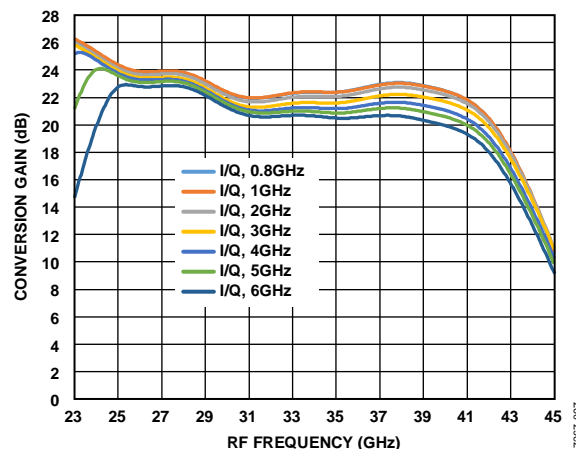
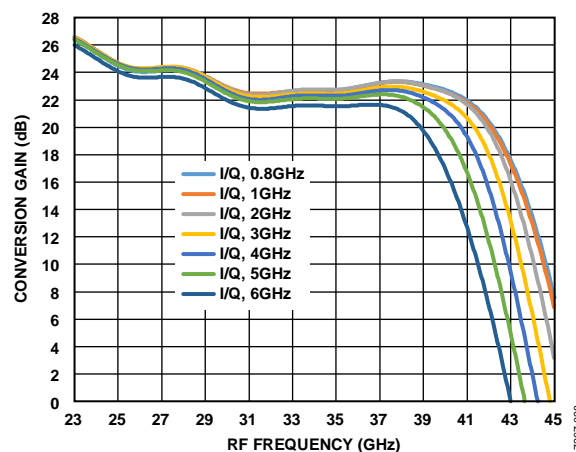

Figure 94. Conversion Gain vs. RF Frequency for Multiple Baseband Frequency Settings (Upper Sideband)
Figure 95. Conversion Gain vs. RF Frequency at Multiple Baseband Frequency Settings (Lower Sideband)
Figure 94 and Figure 95 show the conversion gain vs. RF frequency in I/Q mode for multiple baseband (BB) frequencies ($T_A = 25^\circ\text{C}$, $\text{LO} = 0\text{ dBm}$) for upper sideband and lower sideband, respectively.